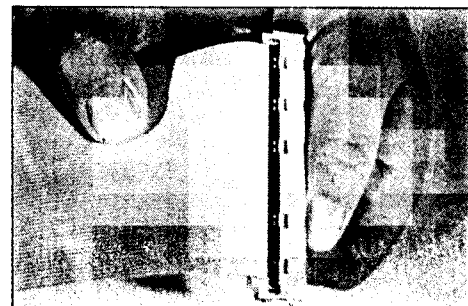

figure 5
5. Position and orient the connector body over the cable-cover subassembly. Engage the cover retainer guides with body ports. (fig. 5 and 6)